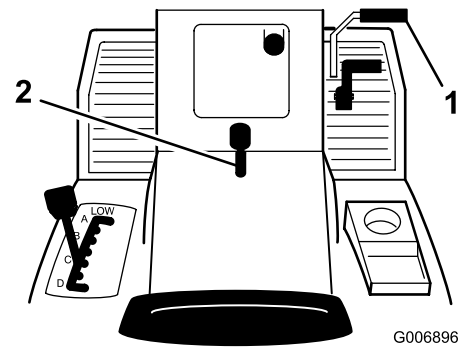

Figure 14
1. Push the brake pedal (Figure 14) down and hold it.
2. Lift the parking brake lever (Figure 14) up and gradually take your foot off of the brake pedal.
1. Push down on the brake pedal (Figure 14).